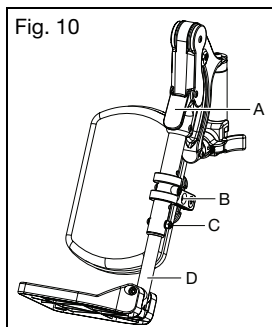

Fig. 10
- a. Remove the mounting bolt that is threaded into the leg rest tube in the center of the pad bracket (Fig. 10:B). In some circumstances, typically when leg rest length is near maximum, a secondary bolt is used (Fig. 10:C). Both bolts B and C may need to be removed to achieve short leg rest lengths. If bolt B passes through the extension, only bolt B will be required.
- a. To raise, lift up on the rear of the extension tube (Fig. 10:C). Stop at the desired position.
- b. To lower, firmly hold the leg from behind the extension tube (Fig. 10:C). Push release lever downward and lower the hanger to the desired height (Fig. 10:A).